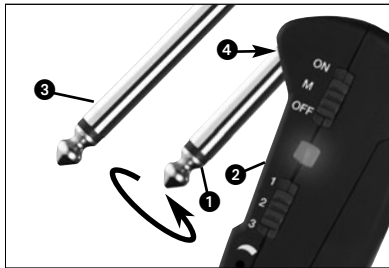

Fig. 4: Mounting the adapter plug.
4.3 Instruments with Recessed Output Jacks (refer to fig. 4 on page 16)